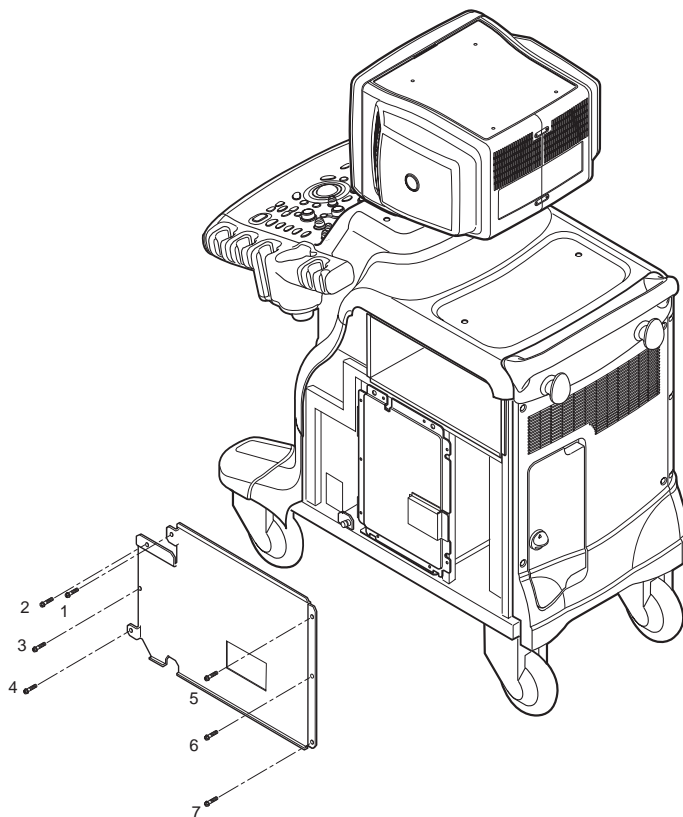

Figure 8-67 Removing the EMI Cover R
- 2.) Unscrew seven (7) screws (1-7).
- 3.) Remove the EMI Cover R. Refer to Figure 8-67.